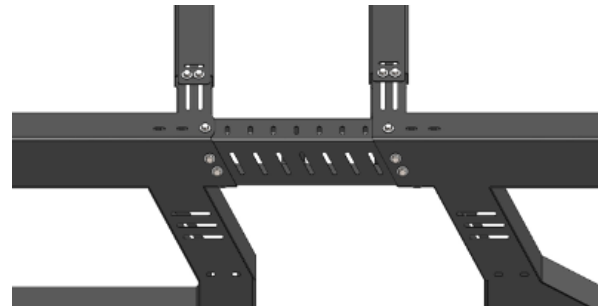

Figure 4
5. Use six (6) 3/8" bolts, washers and nuts per side to attach the front and rear assemblies to the beams. Figure 4